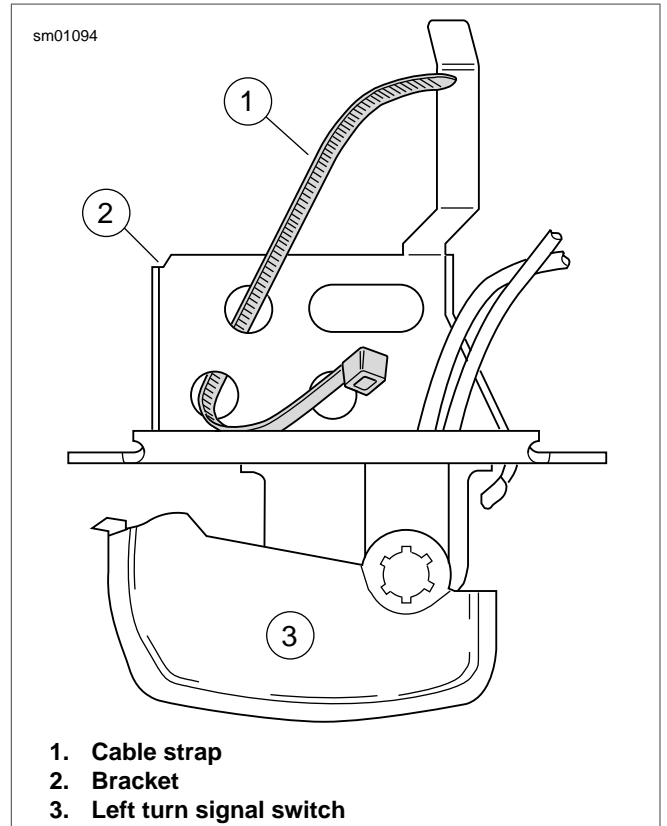

Figure 7-100. Insert Cable Strap in Switch Bracket
1. See Figure 7-100. Insert tapered end of new 7.0 in. (177.8 mm) cable strap (1) into round hole in turn signal switch bracket (2) and then feed back through using the adjacent hole. Reserve the oblong hole for the bracket screw.